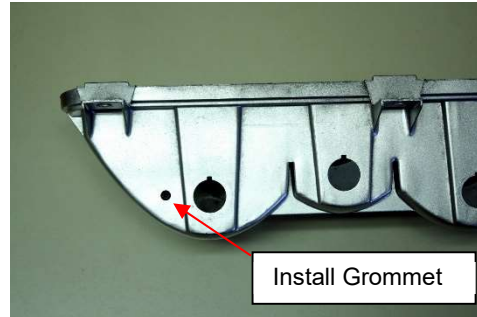

Figure 1
2. OPTIONAL: If sequential patterns are desired, drill a 3/16" diameter hole on the bottom surface of the outboard lighting chamber within the housing and deburr hole. (See Figure 1) Then install provided rubber grommet into the drilled hole. One method to simplify installation is to pinch grommet, insert protruding edge into the hole, then use a small flat blade screwdriver to push/work the remaining edge through the hole.